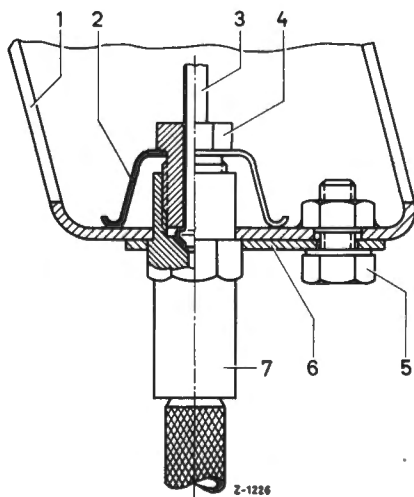

Fig. 33-1/20
36. Mount the strut for the lateral support of the front axle (Fig. 33-1/21). Make sure that the rubber mountings for the front axle support are not under stress. Tighten the hexagon screw (5) of the clamp (6).
The strut must always be fitted in such a way that the clamp side points to the bearing bracket on the chassis base panel and the screw side of the clamp points toward the front (Figs. 33-1/14 and 33-1/21).